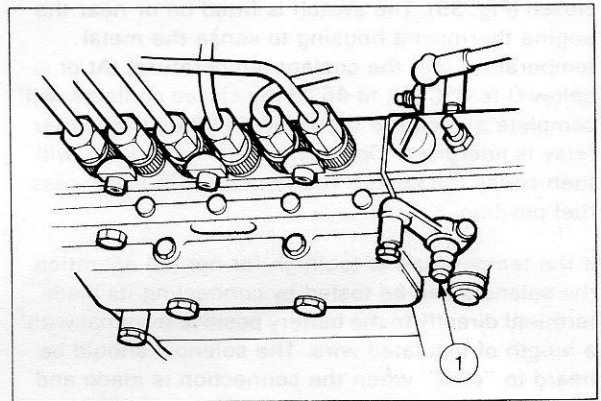

Fig. 34 - Excess Fuel Control - Manual Type
2. Press the excess fuel button (Fig. 34) in until a distinct "click" is heard.